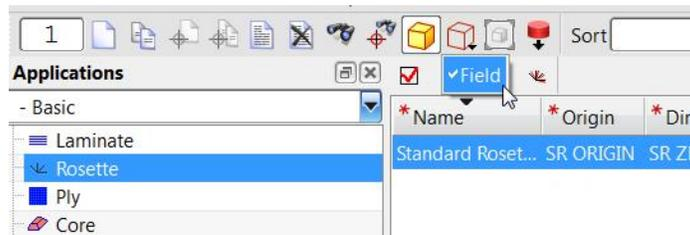

Figure 5–5
7. Activate the NX window. The model displays as shown in Figure 5–6.